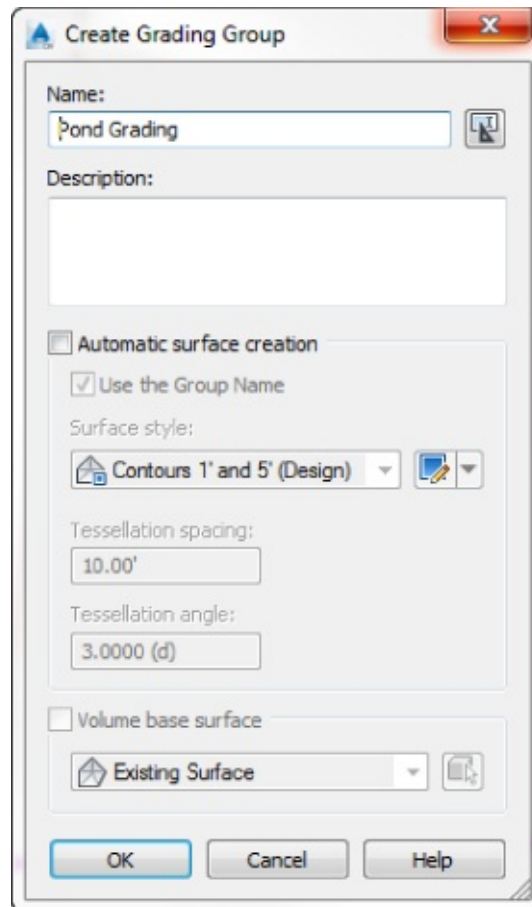

Figure 14.33 Assign the name Pond Grading in the Create Grading Group dialog
8. Enter **Pond Grading** in the Name text box, as shown in Figure 14.33, and click OK.